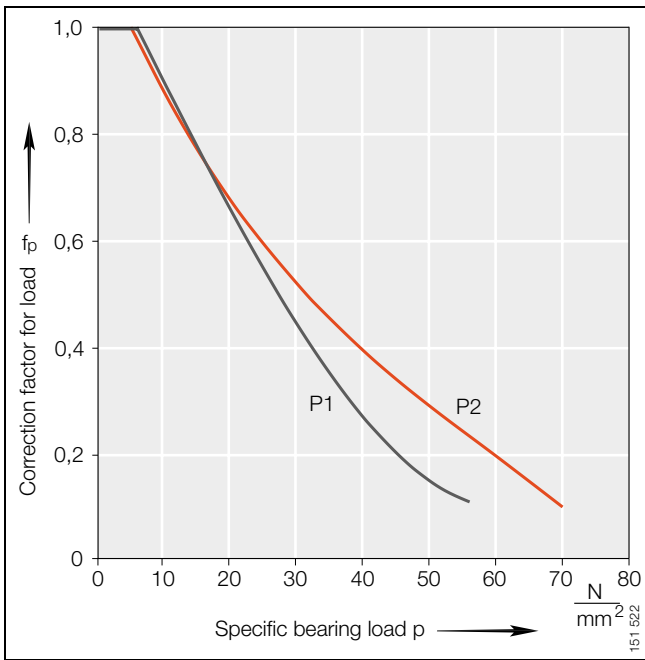

Figure 4 · Correction factor for load f_p ,
Correction factor for load, Figure 4, page 15
- Correction factor for load f_p , Figure 4, page 15